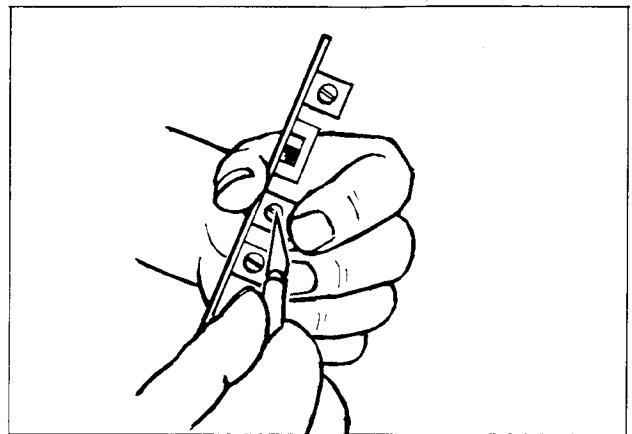

Figure 13. Pot Seal Removal
5. Scrape "pot. seal" from potentiometer to be adjusted. (Support potentiometer with fingers as shown in Figure 13.)